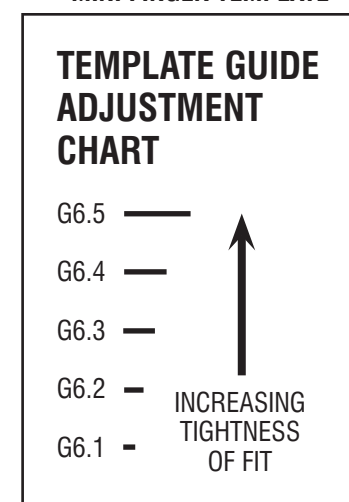

Fig. I21
- \* **IF TOO LOOSE:** Try another template guide that is higher up the chart (Fig. I21). For example, if you used G6.2, you would want to use G6.3, G6.4 or G6.5.
- \* **IF TOO TIGHT:** Try another template guide that is lower down the chart (Fig. I21). For example, if you used G6.3, you would want to use G6.2 or G6.1.